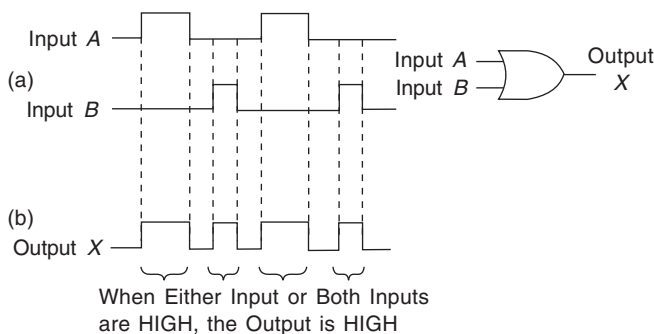

Fig. 4.21 The Output of a Two-input OR Gate is HIGH when Either or Both Inputs are HIGH.
4.22 If the two waveforms A and B are applied to the OR gate in Fig. 4.21(a), what is the resulting output waveform?